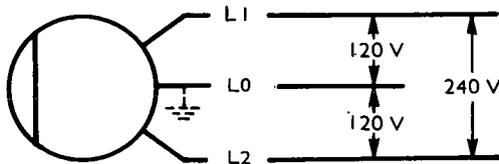

FIGURE 19. 120/240 V. 1-PHASE DOUBLE DELTA
**120/240 Volt, Single Phase, 12 Lead:** Terminal connection L0 can be grounded (neutral). For 120 volts, connect the hot load wires to either the L1 or L2 connection, Figure 19. Connect the neutral load wire to the grounded L0 connection. Two 120 volt circuits are thus available, with not more than 1/3 the rated capacity of the set available on either circuit. If using both circuits, be sure to balance the load between them.